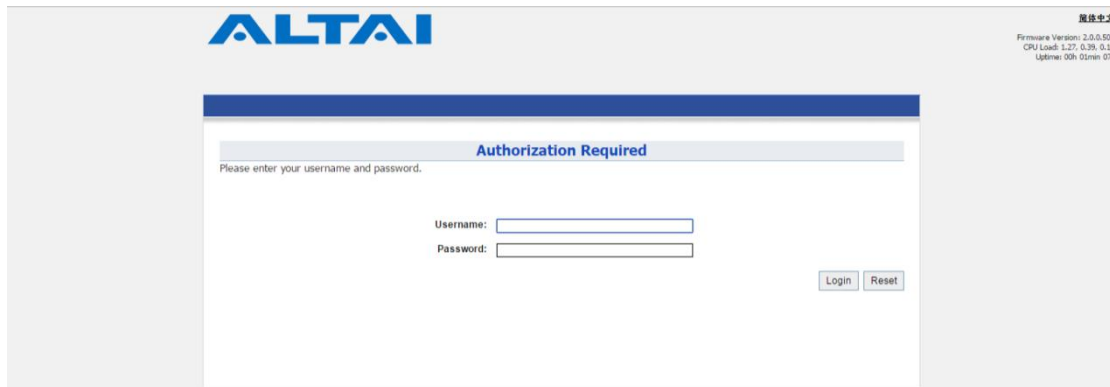

Figure 16 - A3-Ei login page
4. A3-Ei login page appear (see Figure 16).